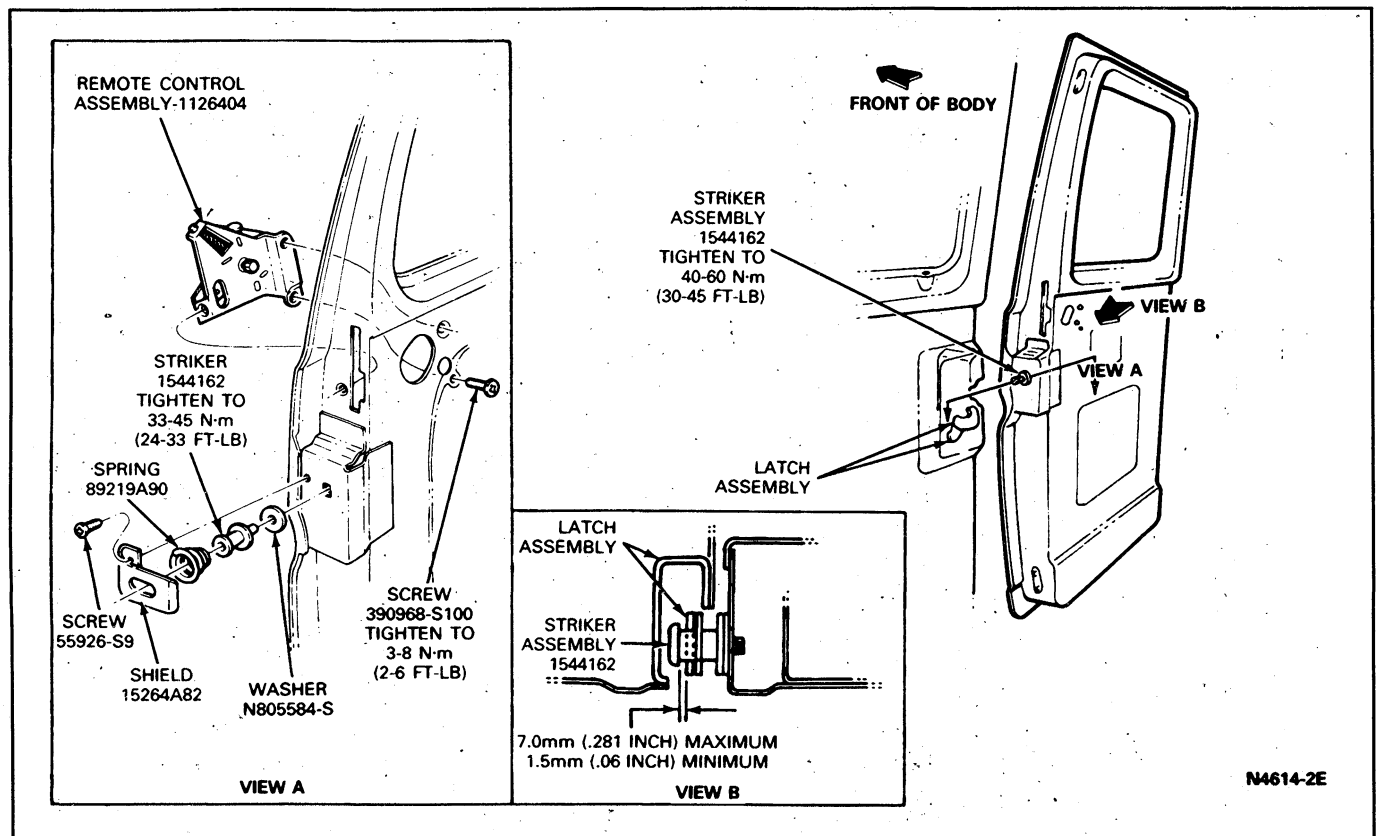

FIG. 7 Rear Side and Left Rear Door Remote Control Door Latch and Striker—E-150—E-350
4. Remove three screws attaching the remote control to the door (Fig. 7, View A).
5. Install three screws attaching the remote control to the door (Fig. 7, View A).